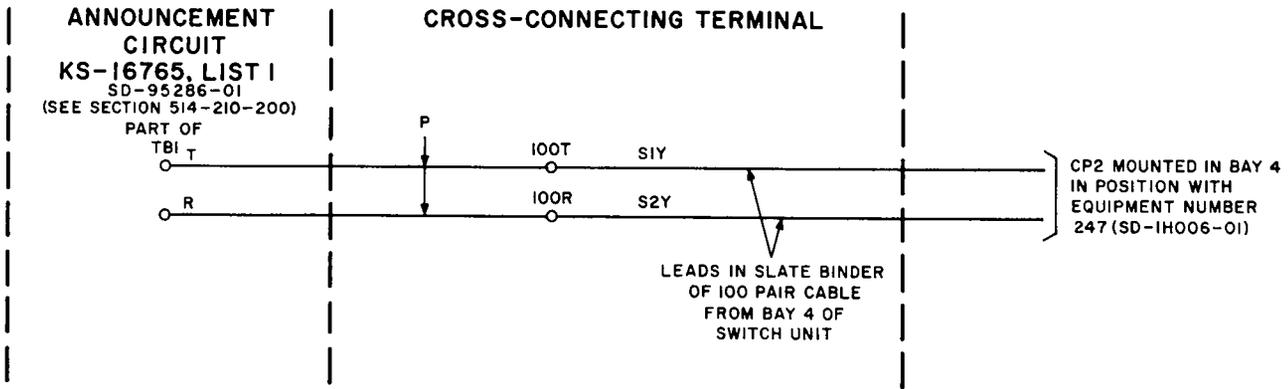

Fig. 8—DID Answering Machine Connections
**6.02** Section 514-210-200 describes installation and connections for the announcement set. Figure 8 shows the connections between the announcement circuit and the cross-connecting terminal.